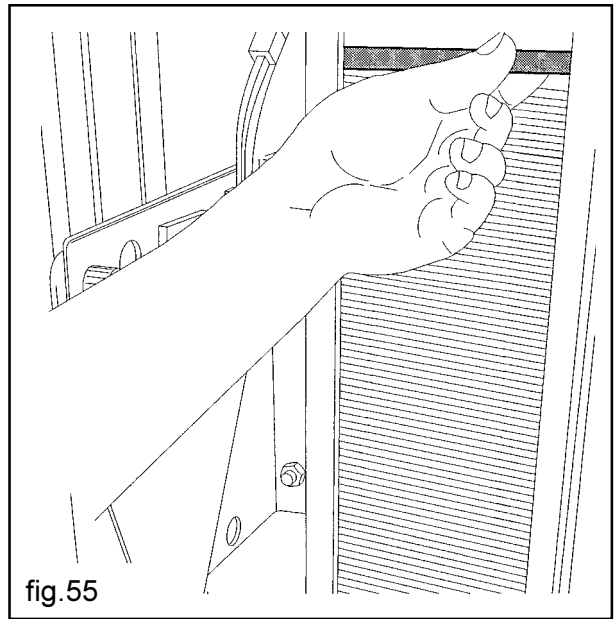

fig.55
- Once the loading is completed, replace the counter-weight. (fig.55).